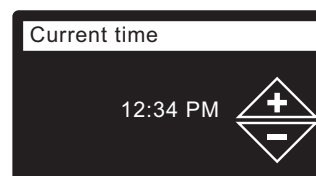

FIG. 25
19. **CURRENT TIME** Press the DOWN (▼) or UP (▲) buttons to set the current time (See Figure 25). Hold the button down to rapidly advance. Be sure that AM or PM is correct. If the system units were set to metric in Step 17, the clock will be in 24-hour format.
20. Press the SELECT (O) button.